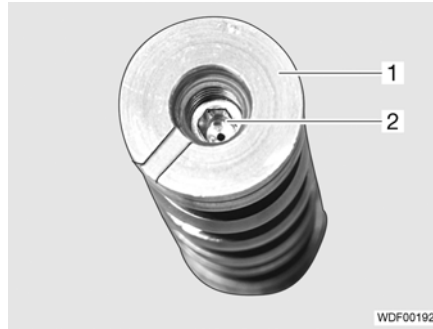

Fig. 217 Control piston
- ▷ Do not damage the outside surfaces of the control piston (Fig. 217,1).
- Unscrew nozzle (Fig. 217,2).